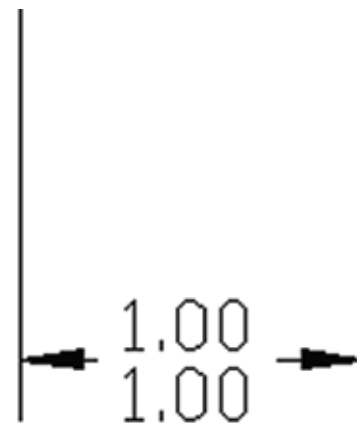

Figure 7.4
- Note that as you dimension, your dimensions have two identical values. See Figure 7.4.